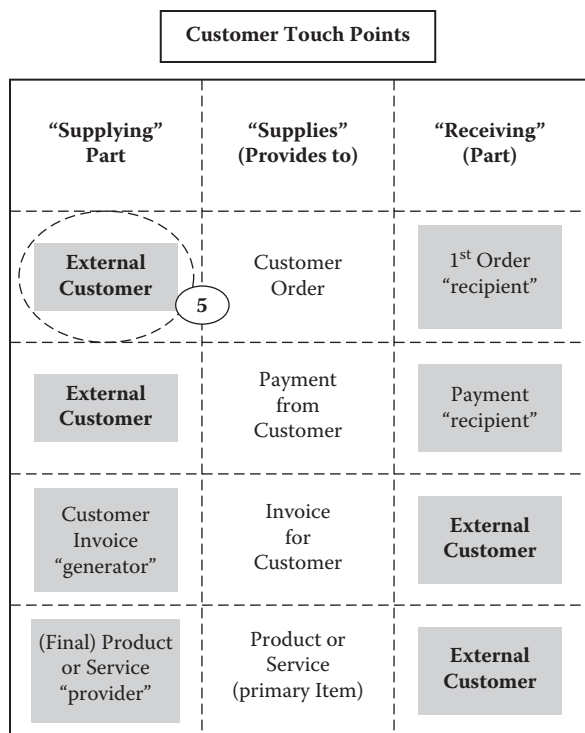

Figure 4.10 Typical external supplier–customer relationships for Order to Delivery.
5. Define the external supplier-customer relationships first, starting with the external customer. This will give you the Customer “touch points” (Figure 4.10).